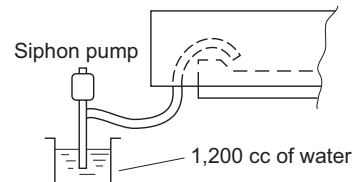

Fig. 2-139
- (1) Connect power to the power terminal board (R, S terminals) inside the electrical component box.
- (2) Short the check pin (CHK) on the indoor control board and operate the drain pump.
- (3) Pour about 1,200 cc of water into the drain pan using a siphon pump through the air outlet grille. (Fig. 2-139)